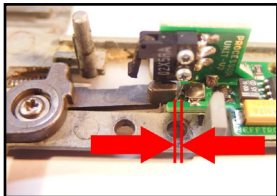

Fig. 4 - Gap between cut off lever and a microswitch on the device 2
6. Try if cut off lever moves enough with microswitch arm on the processor unit. There have to be gap 0,5 - 1,0 mm between them - see Fig. 4. If cut off lever is too long, grind its end or try another cut off lever brand.